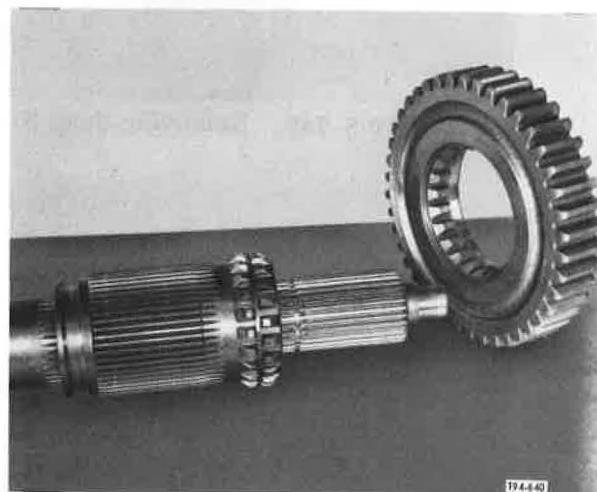

Figure 5-747. Removing Gear
6. Remove third speed gear. See **Figure 5-747**.